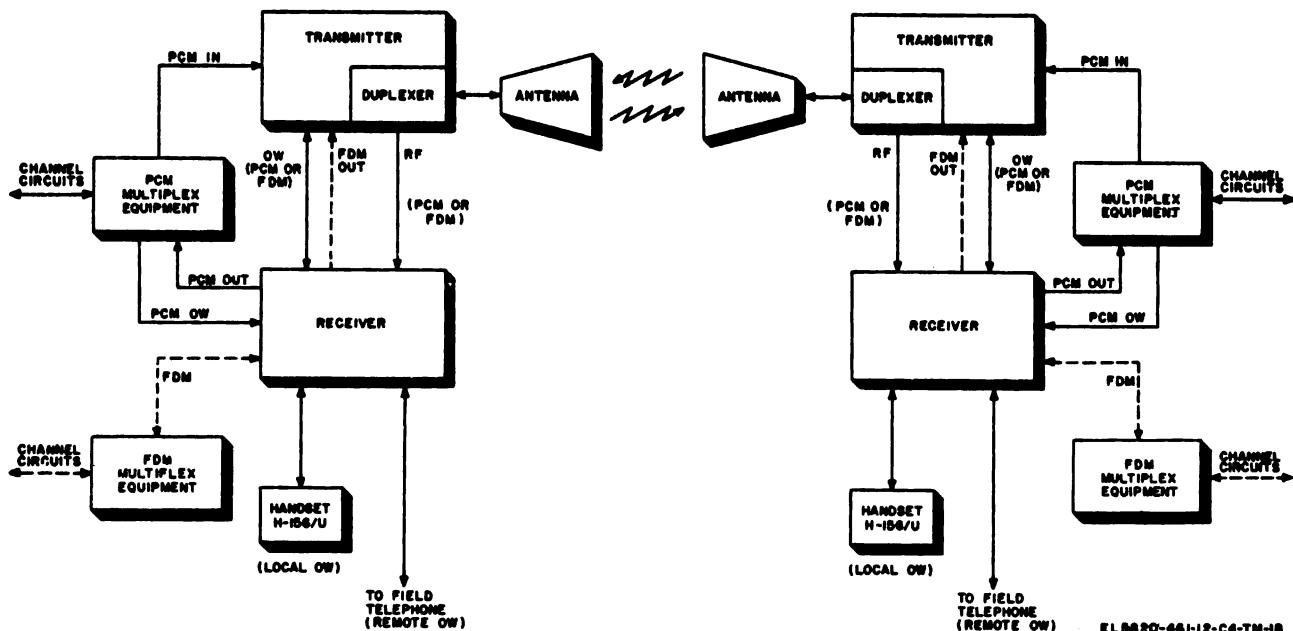

Figure 1-15. System Application using two terminals.
The radio set is designed specifically for system use and generally is not used without supporting multiplex equipment. When the radio set is used in a communications system where the radio link exceeds 30 miles (approximately 50 kilometers), a repeater station is required at each 30-mile interval. In addition to multiplex equipment, each repeater station is equipped with two complete radio sets, to allow simultaneous transmission and reception in two directions. As many as seven repeater stations may be used in a system. The signal paths for various configurations are covered in paragraphs 1-16 and 1-17. Throughout this discussion and accompanying illustrations (figs. 1-15 and 6-1), the equipment that comprises the transmitting portion of the radio set (T-893(P)/GRC, PP-2054(\*)/GRC, and the AM-1957/GRC or AM-1958(\*)/GRC) is referred to as the transmitter; the combination of the R-1148(P)/GRC or R-1331(\*)/GRC and the AM-1955(\*)/GRC or AM-1956(\*)/GRC is referred to as the receiver.
(fig. 1-15)
a. *General.* Multiplex intelligence can be transmitted direct from one radio set terminal station to another at distances up to 30 miles (50 kilometers, approximately). The signal paths through this type of system are shown in figure 1-15 and are covered in b through d below.
(1) Multiplex signals (FDM) from fdm equipment are fed through the receiver to the transmitter (FDM OUT).
(2) The RF carrier of the transmitter, frequency-modulated by the multiplex signals, is coupled through the duplexer to the antenna for propagation towards the distant station.
(3) The signals received by the antenna at the distant station are fed through a duplexer in the transmitter to the receiver (RF). From the receiver, the signals (FDM) are routed to the fdm equipment.